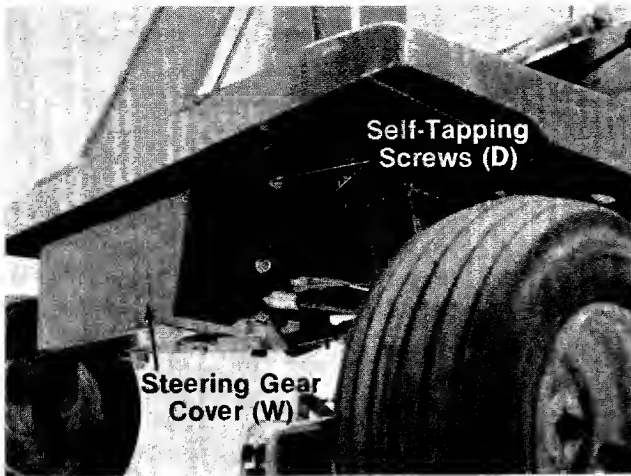

FIGURE 9.
15. Install the **steering gear cover (W)** as shown in figure 9, to cover the underside of the steering mechanism. Secure with two **self-tapping screws (D)** on each side of the cover. Do not completely tighten any of these screws until all four of them are positioned correctly.
16. Press **steering wheel cap (F)** in place in the center of the steering wheel.